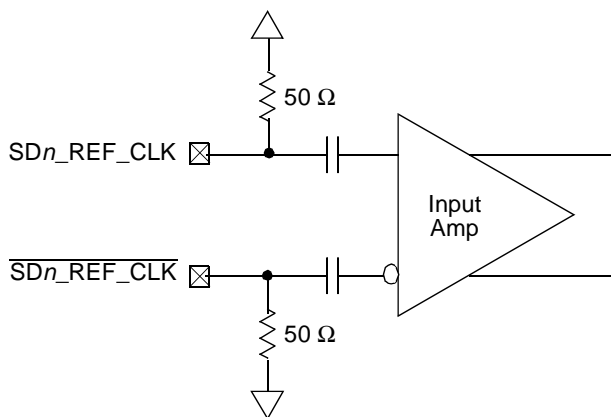

Figure 55. Receiver of SerDes Reference Clocks
Figure 55 shows a receiver reference diagram of the SerDes reference clocks.
- The  $\text{SD}n_{\text{REF\_CLK}}$  and  $\overline{\text{SD}n_{\text{REF\_CLK}}}$  are internally AC-coupled differential inputs as shown in Figure 55. Each differential clock input ( $\text{SD}n_{\text{REF\_CLK}}$  or  $\overline{\text{SD}n_{\text{REF\_CLK}}}$ ) has a  $50 \Omega$  termination to  $\text{SGND\_SRDS}n$  (xc0revss) followed by on-chip AC-coupling.